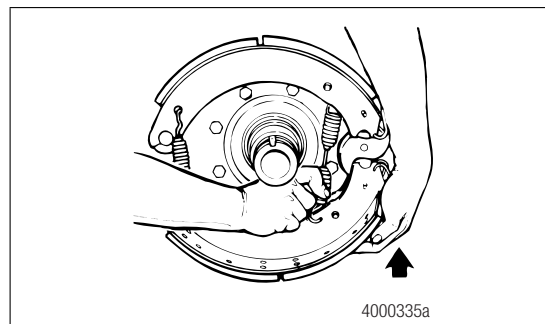

Figure 3.4
3. Lift the bottom shoe to release the tension on the brake shoe return spring. Figure 3.4.